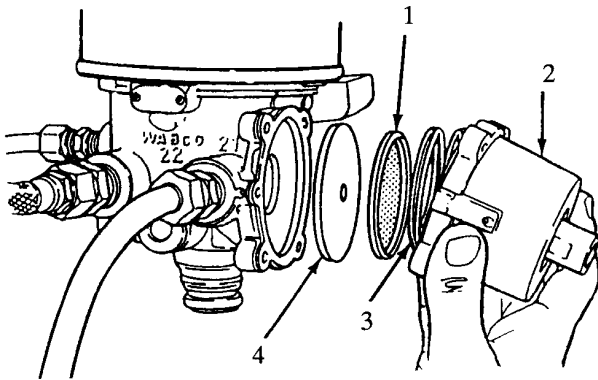

Figure 78 Regeneration Valve
5. Regeneration Valve (Figure 78).